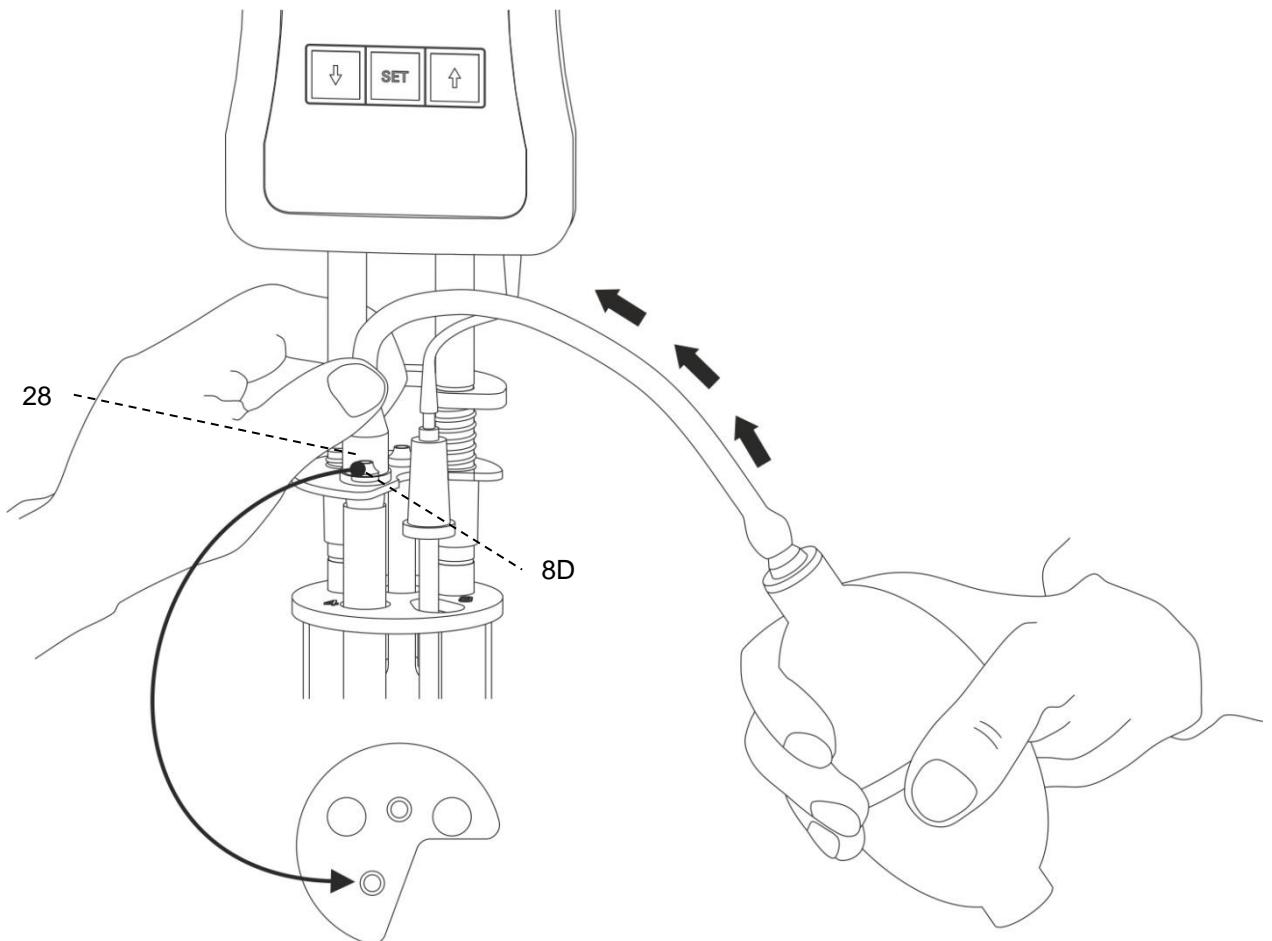

Fig. 8 Pressure mode liquid handling with manual pump VZ 6550
- (a) with pressure applied to the silicone plug (8D) above the filling tube (see Fig. 8)